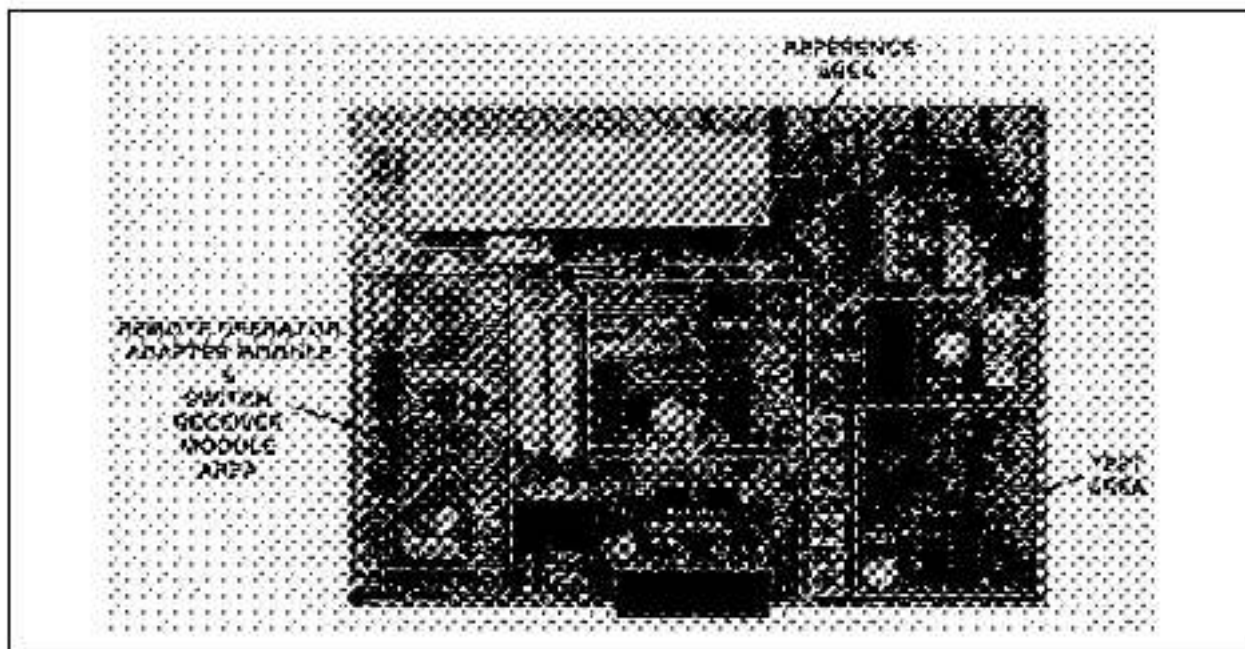
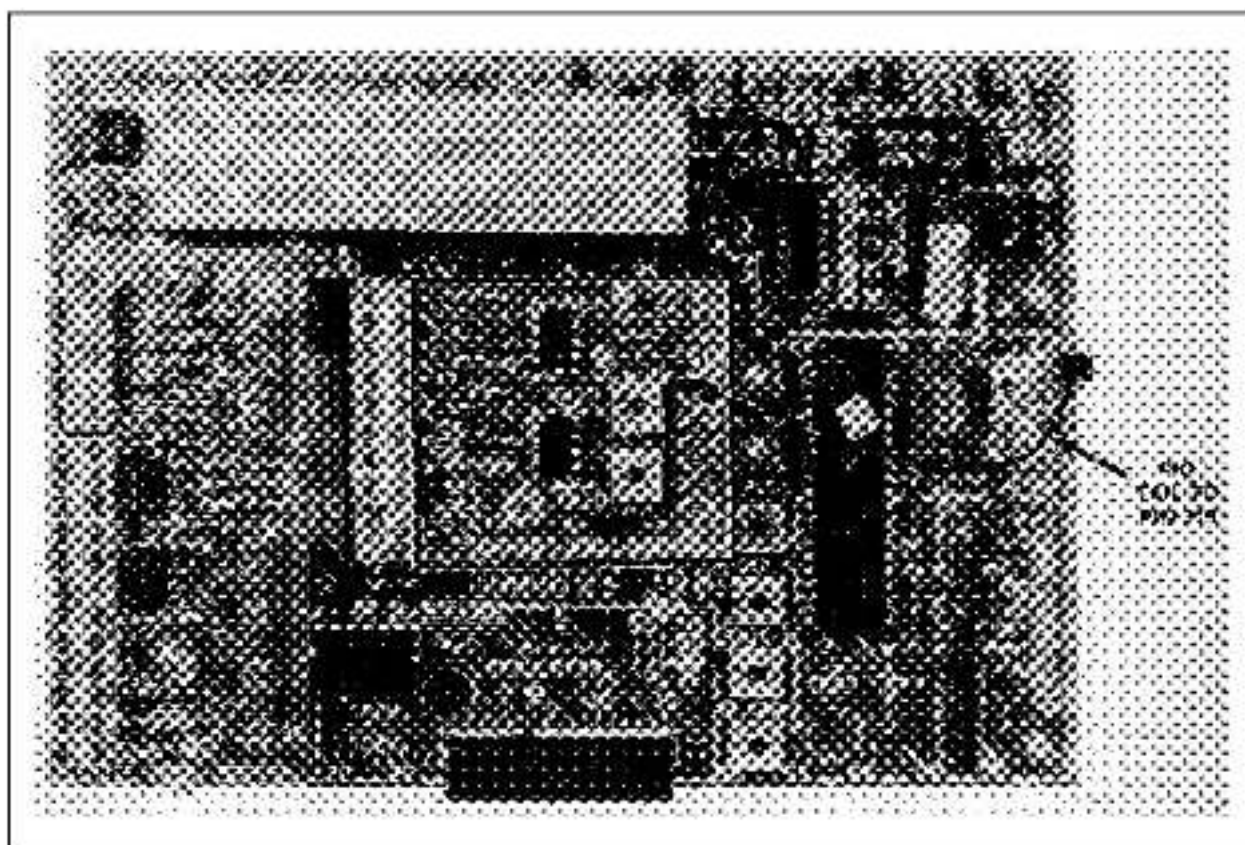

Figure 2 – Regulator Module Kit Locations
Figure 3 – Dancer Follower Kit Mounted to Regulator Module
2. On the regulator module board locate the area of the board marked reference. This is where the Dancer Follower Module is to be mounted. Figure 2 shows this area. Place the Dancer Follower Module in the proper orientation so the pin guides on the module are aligned over the set of five pins on the Regulator Module. Lower the Dancer Follower Module so the pins pass through the pin guides and the mounting spacer seats in the mounting hole. (It may be necessary to remove a protective plastic cap from the pins.) Secure the module with the supplied screw. Refer to Figure 3.
3. Connect the black pig-tail jumper of the Dancer Follower Module to pin 319 on the regulator module (Pin 319 is the third pin down in it's group) refer to Figure 3.